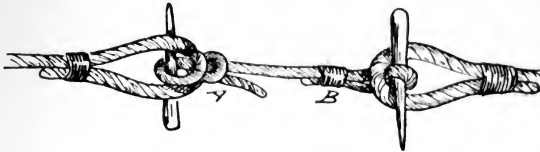

FIG. 100.—Belaying-pin splice.
99). The belaying-pin splice, shown in Fig. 100, is a quick and handy way of fastening two ropes together and is of great value
the lanyard through this and around another toggle or pin and haul taut; then fasten by half-hitches around standing part (*A*, Fig. 100), or by seizing (*B*, Fig. 100). This is a strong, reliable fastening and can be tightened up or instantly thrown off at will.